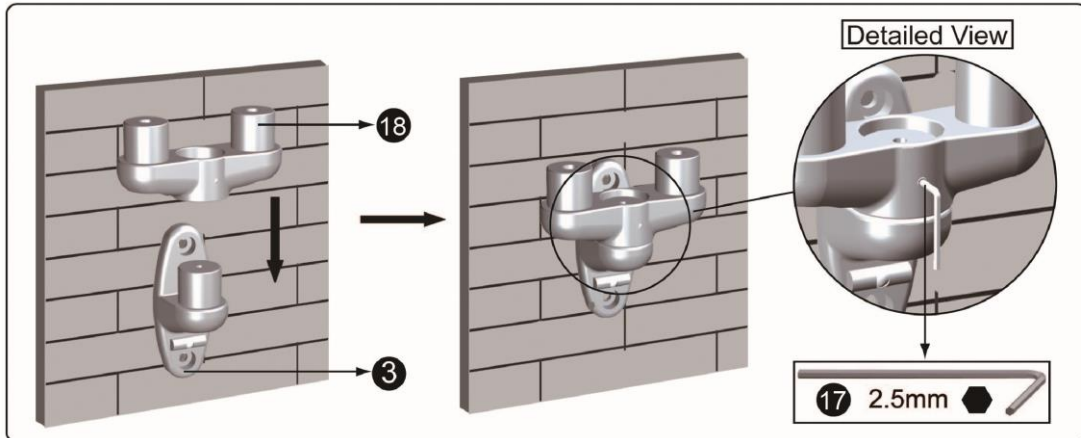

Figure 1-10
5. Install the DEK (18) onto the wall plate (3) pole. To secure the DEK, tighten the hex screw using the 2.5mm Allen Wrench (17) (See Figure 1-10).